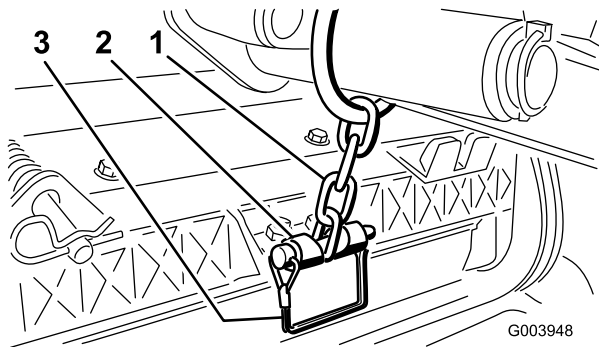

Figure 14
13. Secure the lift arm chain to the chain bracket with the snapper pin (Figure 14). Use the number of chain links described in the cutting unit *Operator's Manual*.